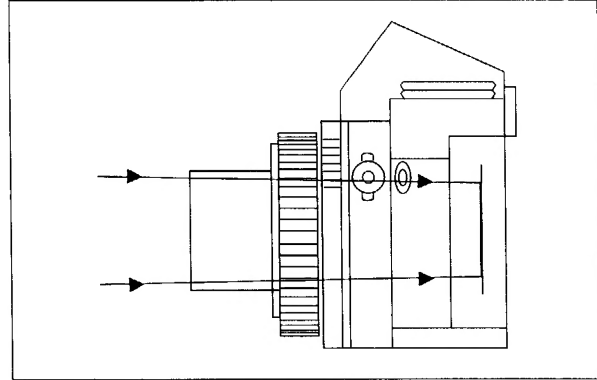

Fig. 9: Prime-Focus Photography.
3. Thread the prime-focus section of the Basic Camera Adapter (optional) into the front of the T-Mount now attached to your camera (Fig. 9).
Meade Super Plössl (SP), Super Wide Angle (SWA), and Ultra Wide Angle (UWA) Eyepieces in the standard American-size (1.25") barrel diameter (Fig. 9) or the 2" barrel size permit a wide range of magnifying powers with the telescope. Powers obtained with each eyepiece are as follows: